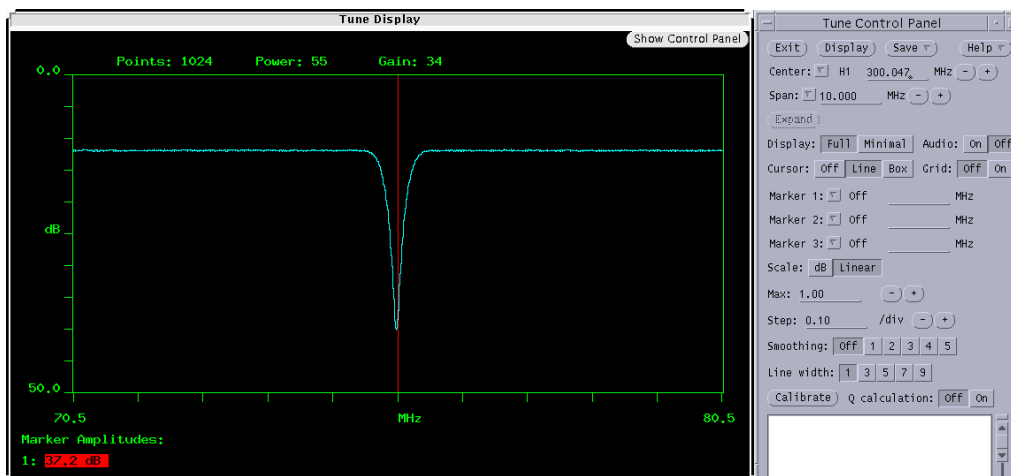

Figure 23. Probe Tuning Window (qtune Program)
This section describes how to use the graphical probe tuning program, `qtune` (shown in Figure 23), for swept-tune-type NMR probe tuning. `qtune` is available on ^{UNITY}*INOVA*, and *UNITYplus*, *MERCURY-Vx*, and *MERCURYplus* systems.
The Tune Display and Tune Control windows open, similar to Figure 23. The Tune Display is centered on the resonant frequency of the current experiment (`sfrq`).
- Full display shows the network-analyzer-like graph, as shown in Figure 23.